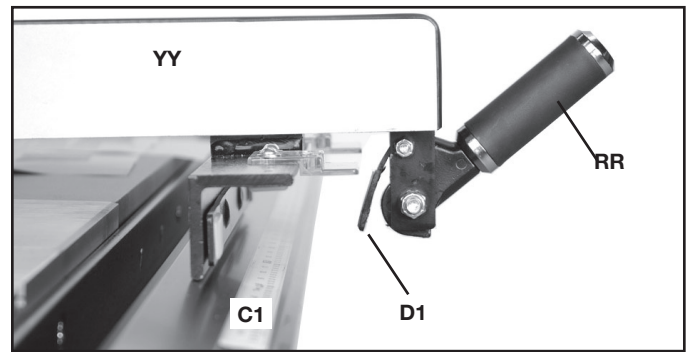
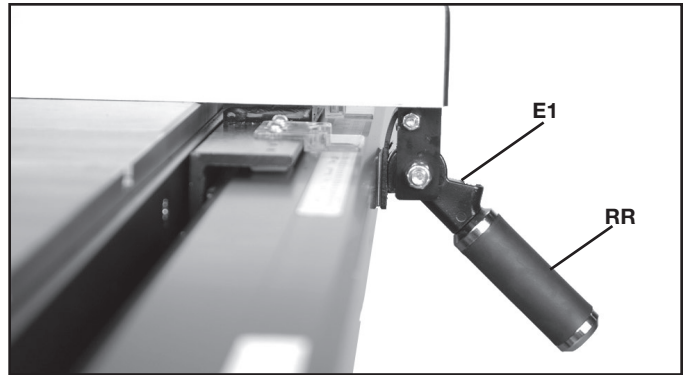

FIG. 28
FIG. 29
When clamping the fence assembly (YY) Fig. 28 to the guide tube (C1), make certain the camfoot (D1) is hanging down and in between the locking handle (RR) and the guide tube (C1) — not caught on top of the guide tube.
A properly clamped fence assembly is shown in Fig. 29.
To move the fence along the guide tube, simply lift up the locking handle (RR) Fig. 29, as shown, slide the fence to the desired position on the guide, and push down locking handle (RR) Fig. 28 as shown, to lock in position.
**NOTE:** A magnet (E1) Fig. 29, is provided to hold the handle in the up position (as shown in Fig. 28) when moving the fence.